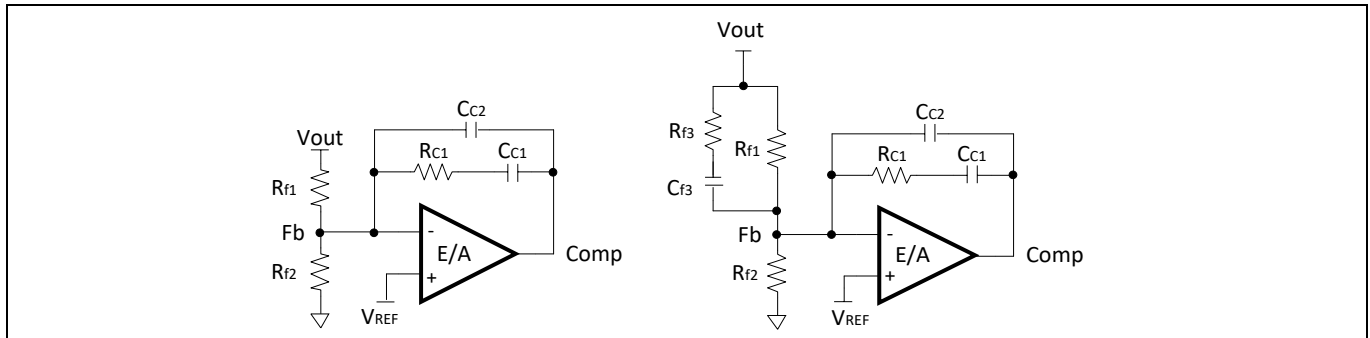

Figure 8 Loop Compensator: (left) Type II, (right) Type III
Two types of compensators are commonly used: Type II (PI) and Type III (PID), as shown in Figure 8. The selection of the compensation type is dependent on the ESR of the output capacitors. Electrolytic capacitors have relatively higher ESR. If the ESR pole is located at a frequency lower than the cross-over frequency, FC , the ESR pole will help to boost the phase margin. Thus, a type II compensator can be used. For the output capacitors with lower ESR such as ceramic capacitors, type III compensation is often desired.